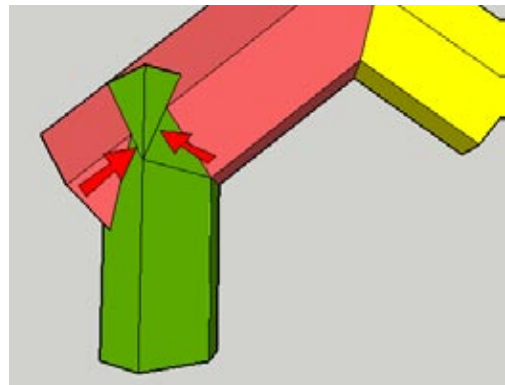

Figure 5-68
6. From this new endpoint, draw two lines that meet the red ridge line, as indicated in Figure 5-68.